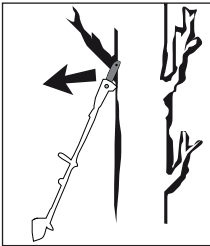

Fig. 2
- Kickbacks can occur if the tip of the guide rail **23** touches an object or if the wood bends and the saw chain **17** gets caught in the cut (see Fig. 2).